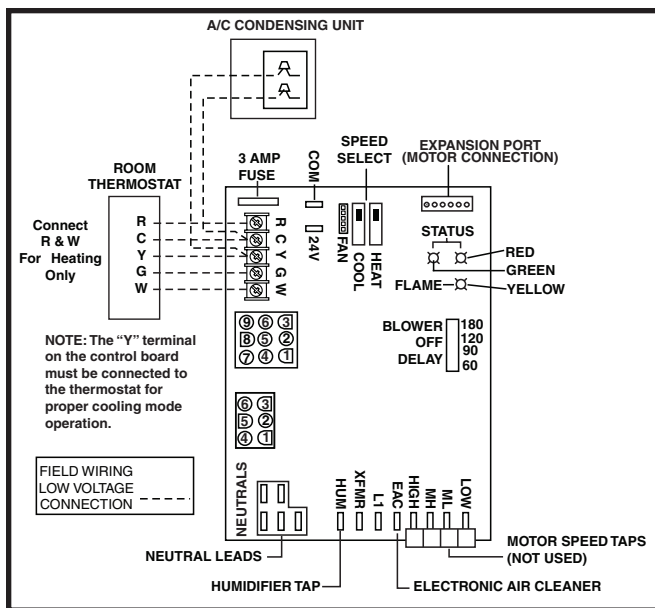
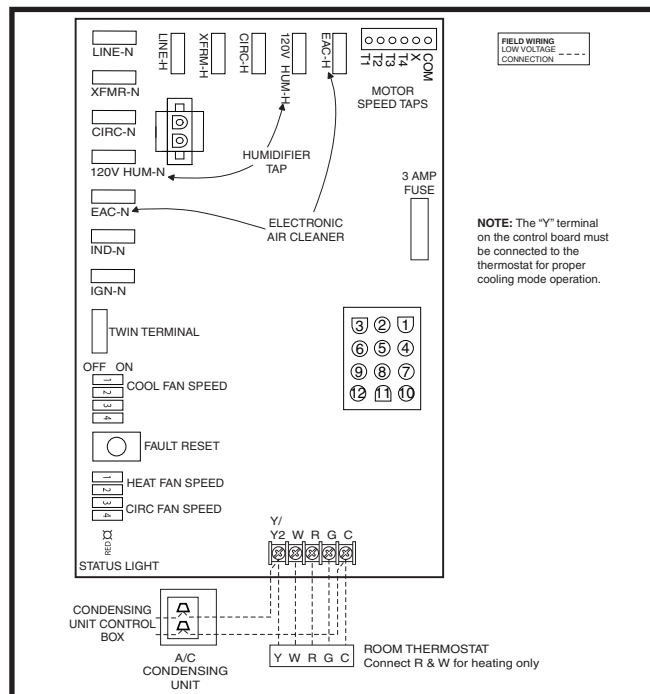

Figure 15. Low Voltage Field, Four-wire Heating/Cooling Applications
Figure 16. Emerson Low Voltage Field, Four-wire Heating/Cooling Applications
- The thermostat must be installed according to the instructions supplied by the thermostat manufacturer. Low voltage connections (24 VAC) from the thermostat are wired to the terminal strip on the integrated control in the furnace. Figure 15 and Figure 16 \(page 22\) contain the proper connections for heating only (two-wire) and heating/cooling (four-wire) applications. Recommended minimum wire gauge for thermostat wiring is shown in Table 4 \(page 22\).
The operating sequences for the heating, cooling, and fan modes are described below. Refer to the field and furnace wiring diagrams: (Figure 15 and Figure 16 page 22), (Figure 20 page 29) and (Figure 21 page 30).